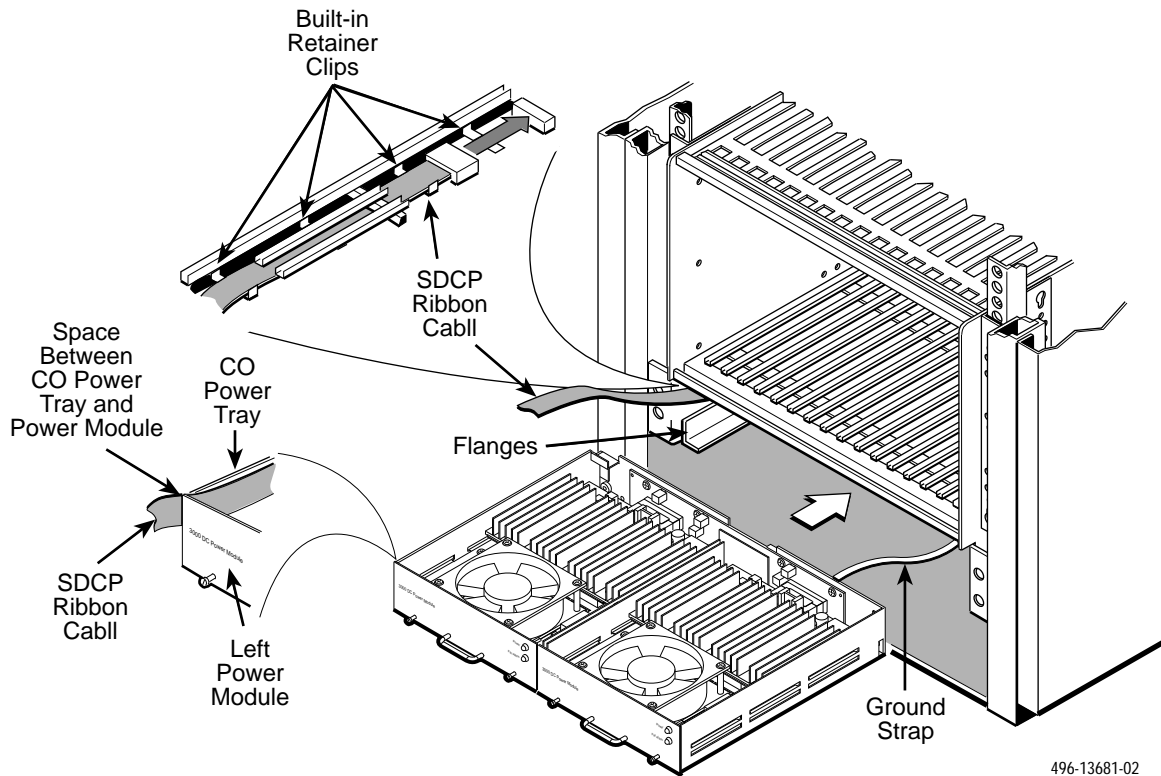

Figure 2-3. CO Power Unit Installation
2. At the front of the carrier, place the CO Power Unit on the flanges at the bottom of the carrier (see Figure 2-3). Slide the CO Power Unit into place against the rear rail of the enclosure, guiding the ground strap through the opening in the carrier's backplane.
If an SDCP ribbon cable has been installed, hold the ribbon cable to the left of the CO Power Unit when sliding the power unit into place against the rear rail of the enclosure. Place the ribbon cable between the power module and the side of the CO power tray (see Figure 2-3). The SDCP ribbon cable is connected to the back of the SDCP after the CO Power Unit is installed.
4. Place the power module in the card guides and slide the power module to the rear of the carrier. When sliding the left power module into the CO Power Unit, hold the SDCP ribbon cable to the left of the power module. Then, tighten the two captive screws on the front of the power module (see Figure 2-3).